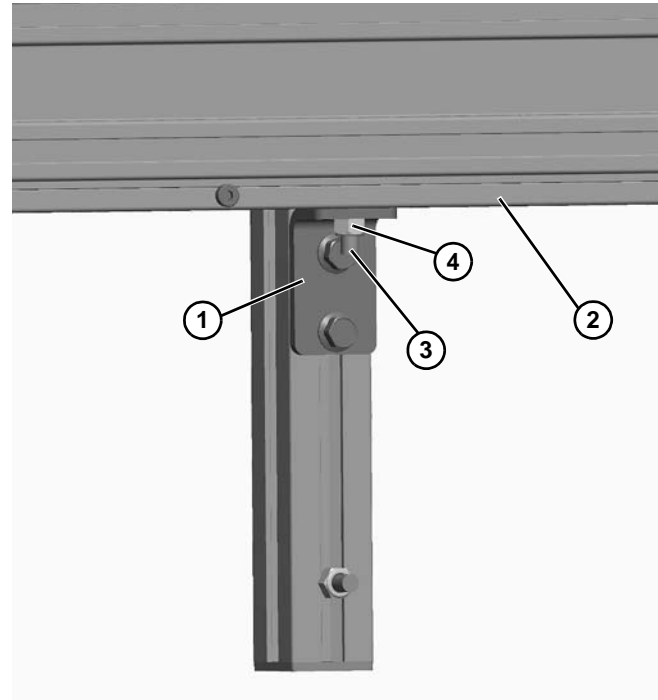

Figure 2
3. Attach mounting components (**Figure 2, item 1**) to conveyor if applicable.
4. Insert T-bolt (**Figure 2, item 3**) into bottom of conveyor frame (**Figure 2, item 2**). Tighten nut (**Figure 2, item 4**) to secure.